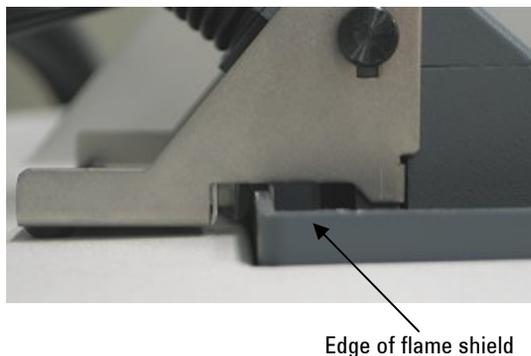

Figure 14. The GTA viewing/fume extraction accessory clips onto the flame shield and is secured by spring-clips.
- 3 Clip the accessory onto the flame shield. Make sure that the edge of the flame shield fits between the spring canoe-clips. Refer to Figures 14, 15 and 16.